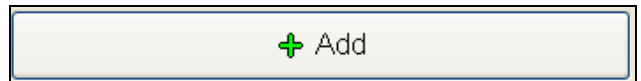

Figure 11.2.6
3. Once you have entered the cycle in which you want the task to perform click on the **Add** button at the bottom of the scheduler (Figure 11.2.6).